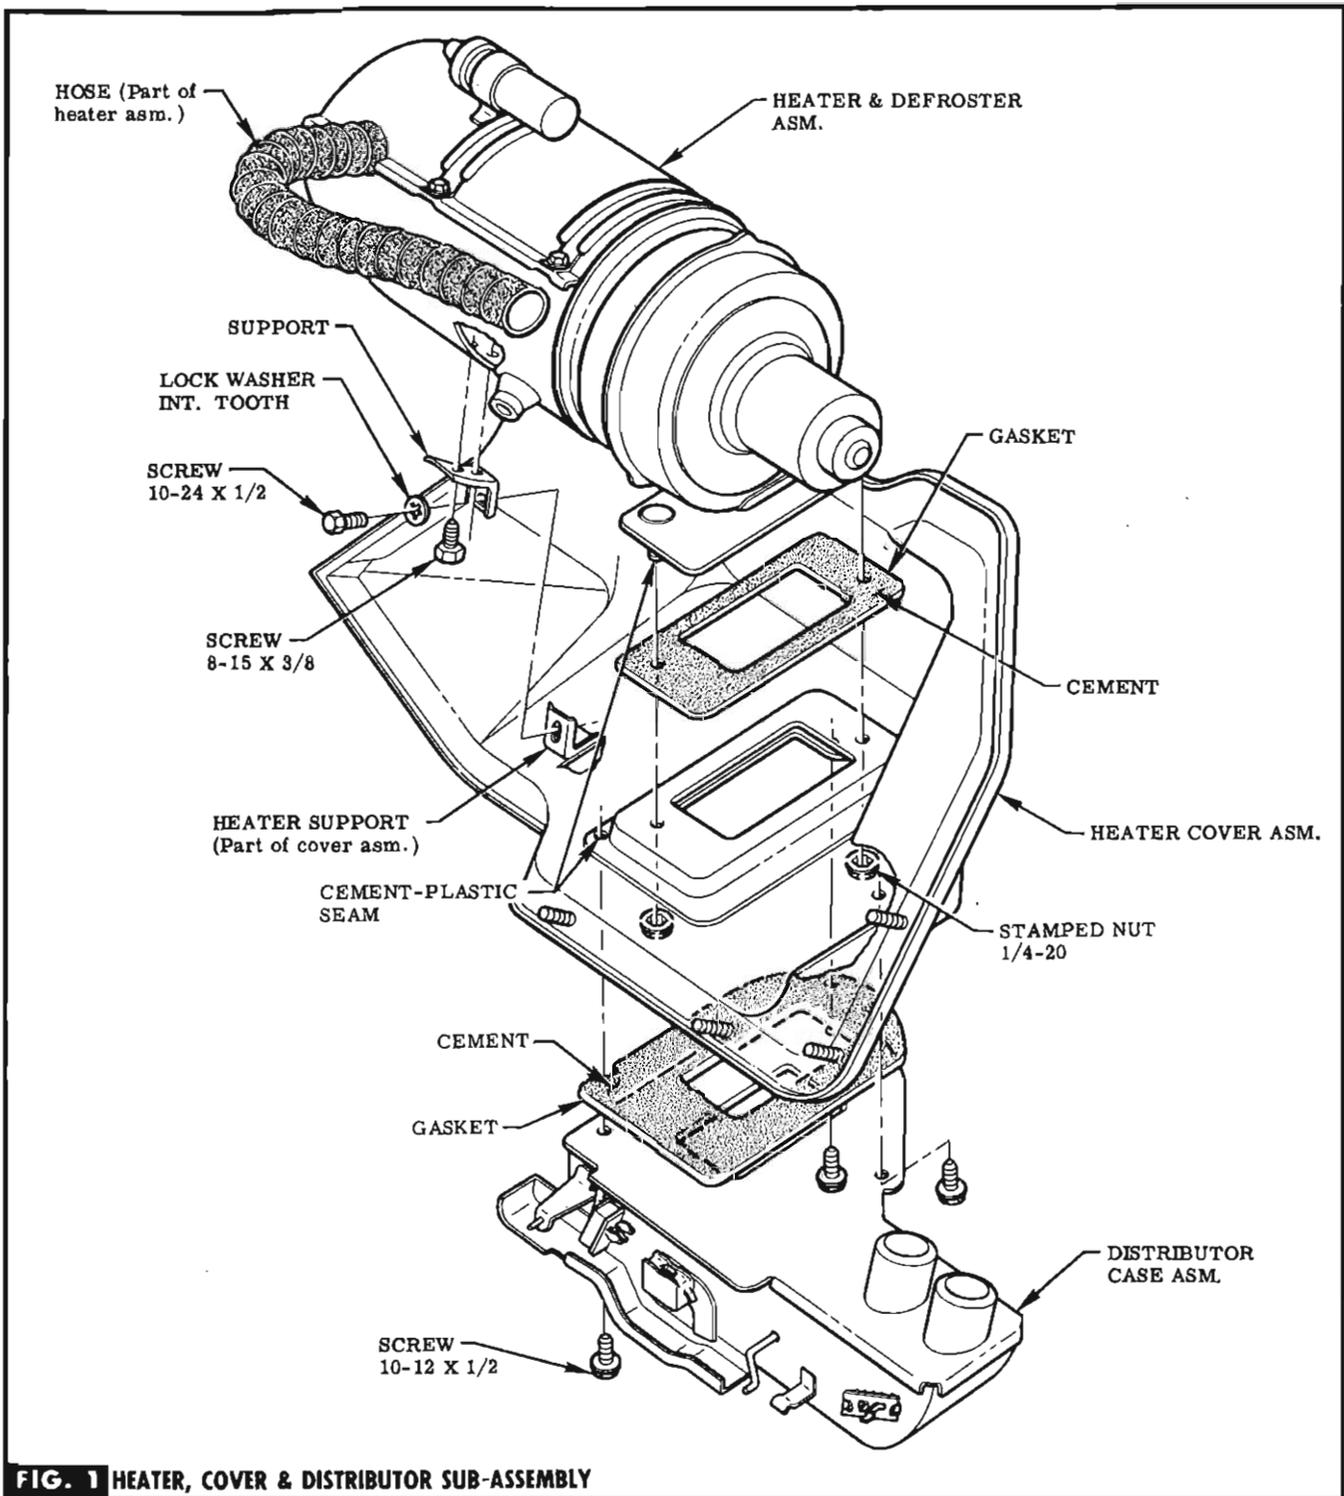

FIG. 1 HEATER, COVER & DISTRIBUTOR SUB-ASSEMBLY
STEP 3 ATTACH SUPPORT TO HEATER WITH SCREWS PROVIDED (IN BAG A). SEE FIG. 1.
STEP 4 CEMENT GASKET TO HEATER, APPLY PLASTIC SEAM CEMENT TO STUDS & ATTACH HEATER TO COVER WITH ATTACHING PARTS PROVIDED (IN BAG B). SEE FIG. 1.
STEP 5 CEMENT GASKET TO DISTRIBUTOR, APPLY PLASTIC SEAM CEMENT TO THREE (3) HOLES IN COVER ASM. & ATTACH DISTRIBUTOR TO COVER ASM. WITH SCREWS PROVIDED (IN BAG B). SEE FIG. 1.